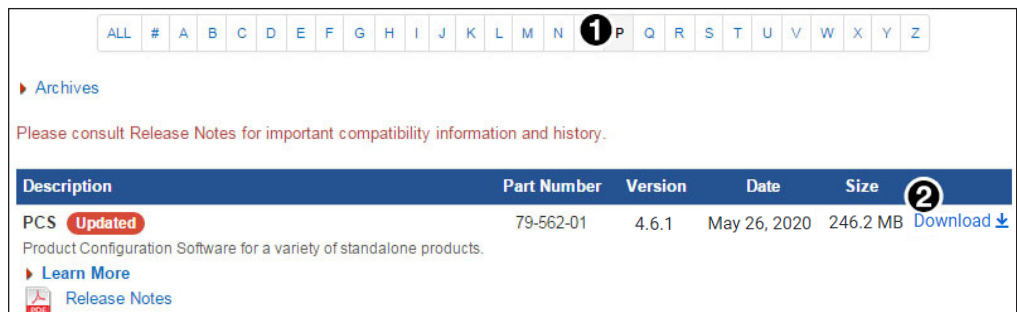

Figure 7. PCS on the Extron Website
2. Navigate to PCS (see figure 7, **1**), and click **Download** link on the right (see figure 7, **2**).